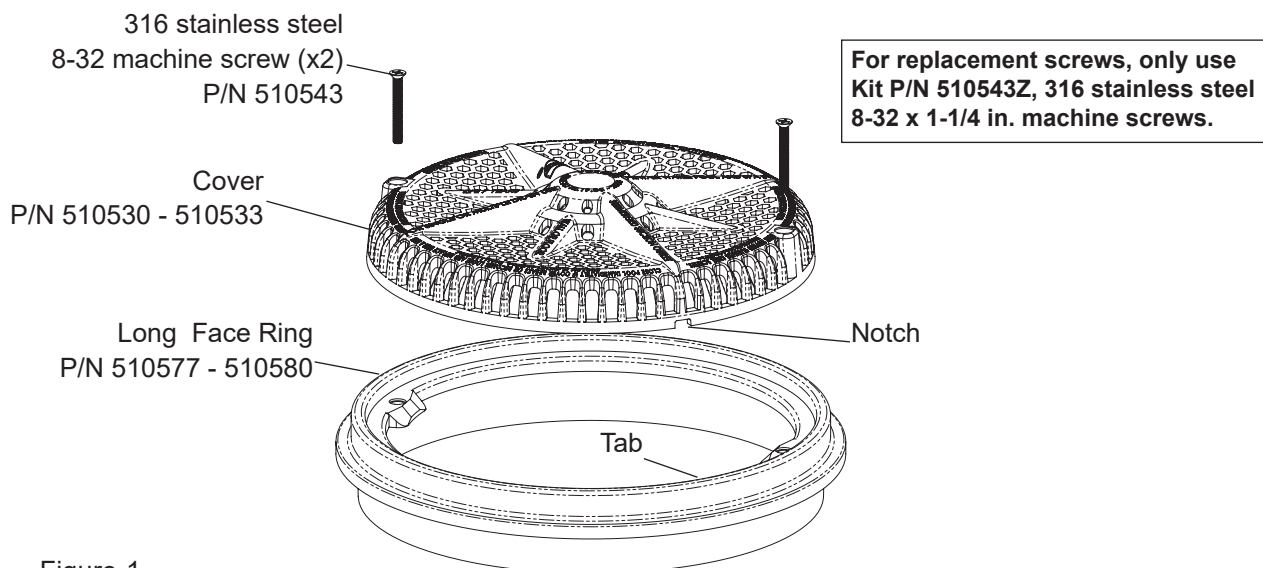

Figure 1
- Mount the drain cover on top of the face ring/suction outlet (see Figure 1).
- Install the two (2) 316 stainless steel 8-32 machine screws (provided) into the holes in the top of the cover. Using a No. 2 Philips head screwdriver, tighten each retaining screw to a torque value of 10.00 (minimum) to 15.0 (maximum) in/lbs to secure the cover. HAND START EACH SCREW. DO NOT OVER TIGHTEN THE SCREWS. DO NOT ASSEMBLE WITH POWER TOOLS.